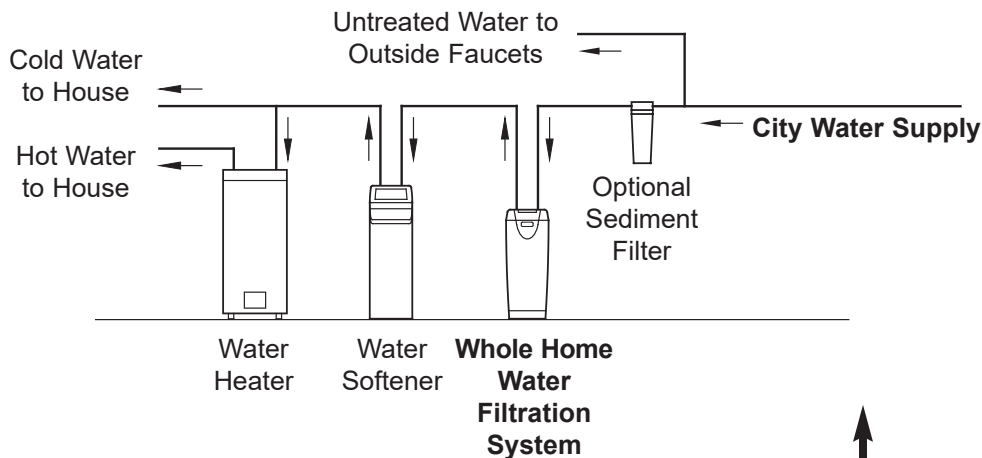
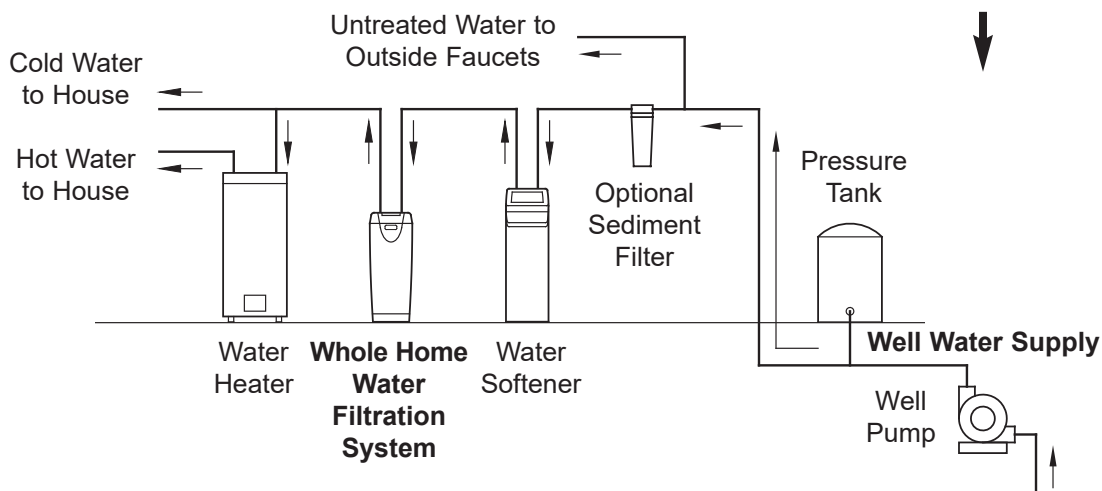

FIG. 3A
FIG. 3B
- For a home with municipal water supply, install the Whole Home Water Filtration System between the home's incoming water supply and the water softener, if one is being used (See Figure 3A). If the home has well water, reverse the order of the Whole Home Water Filtration System and the water softener (See Figure 3B).
- Do not install the Whole Home Water Filtration System on a hot water line (See Figures 3A & 3B, below).